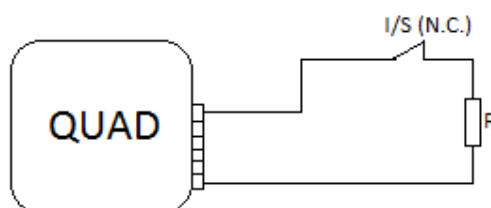

Figure 2.1. Normally closed switch/sensor. Serial resistor
**Installations with a switch/sensor normally closed:** The chosen resistor must be connected **in serial** in the installation line and as close as possible to the switch/sensor, at the terminals (if possible) and whose access is not easy from the outside. See figure 2.1.